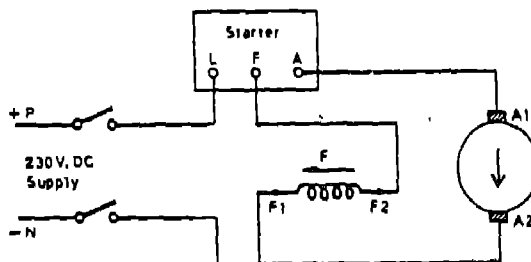

Fig 18.2 D.C. Shunt motor rotation reversal
- (i) Connect the motor as shown in Fig. 18.2.